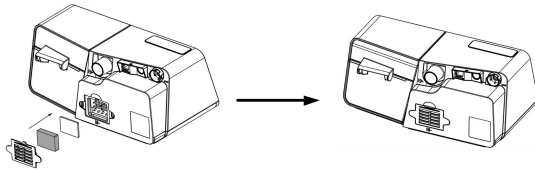

Fig. 18-6
(3) Install the filter cap containing the reusable air filter/disposable ultra-fine filter to the device, as shown in Fig. 18-6.